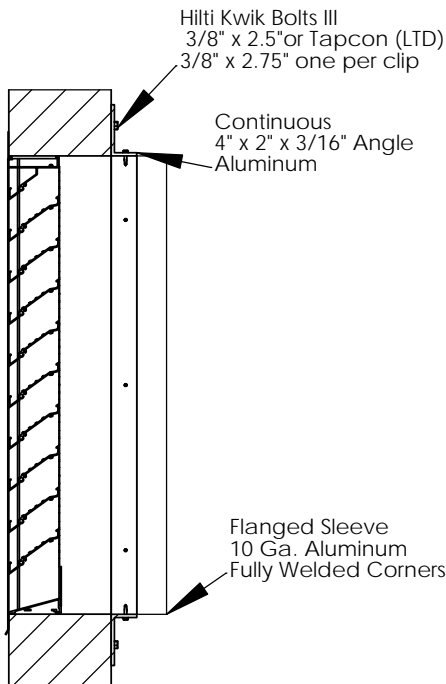

Fig. 3 - IC-436-3
1. Anchoring into Concrete or Masonry: See Fig. 3 Model IC-436-3 for detailed instructions.